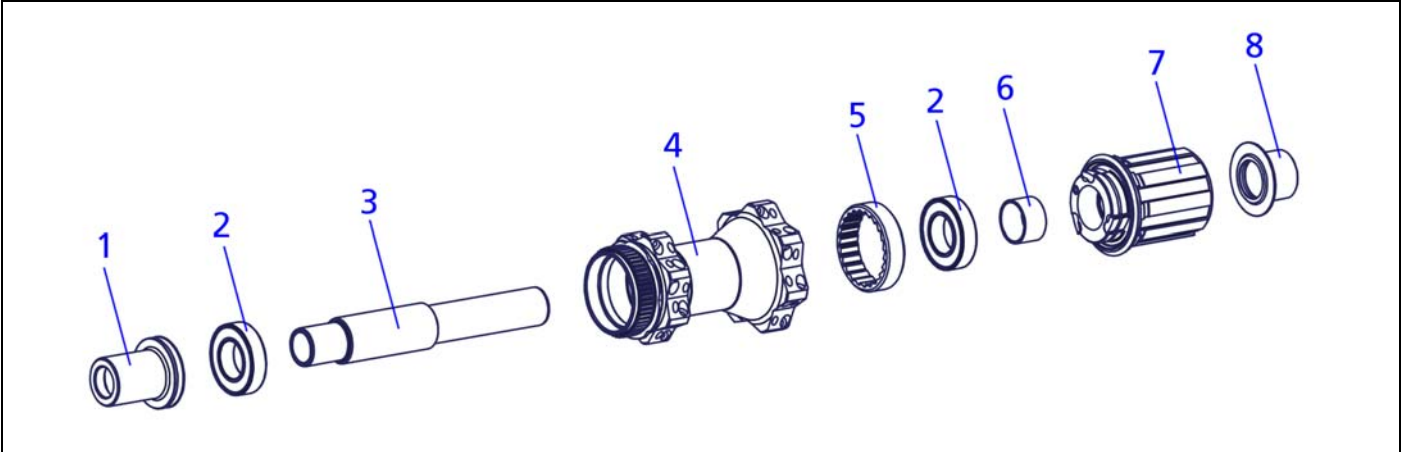

Figure 3-4: Overview Three Pawl System
1. Clamp the right adapter (fig.3-4/8) into a vice.
3. Clamp the left adapter (fig.3-4/1) into a vice.
5. Pull the rotor (fig.3-4/7) off the hub.
6. Pull the spacer (fig.3-4/6) off the axle.
1. Tap out the bearing (fig.3-4/2) on the disc-side by hitting the axle (fig.3-4/3) with a nylon hammer.
3. Turn the axle (fig.3-4/3) 180° and put it through the hub and the bearing (fig.3-4/2) on the drive side.
5. Remove the bearing (fig.3-4/2) from the axle (fig.3-4/3).
3. Slide the bearing (fig.3-4/2) with the colored side outwards onto the axle (fig.3-4/3).
12. Put the star nut (fig.3-4/5) onto the tool.
- 13.** Put the hub shell onto the ring nut (fig.3-4/5).
- 18.** Put a new bearing (fig.3-4/2) with the colored side outwards onto the non drive side.
- 19.** Tap in the bearing (fig.3-4/2) using a plastic hammer.
- 2.** Slightly grease the rotor (fig.3-4/7) and the rotor sealing.
1. Grease the ring nut (fig.3-4/5) with DT Swiss special grease.
2. Slightly grease the axle with universal grease and slide the spacer (fig.3-4/6) onto the axle.
3. Slide the rotor (fig.3-4/7) onto the hub while performing a rotary motion.
5. Grease the bearings and the inner surface of both adapters (fig.3-4/1, 8).
6. Put on both adapters (fig.3-4/1, 8) and push them in by hand.